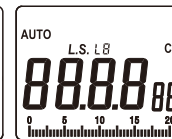

Figure 3-6-3
- Hold the “Lx/Fc/CD” button to save the distance and the LCD display will now show the measured light intensity measurement (as shown in figure 3-6-3).